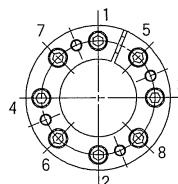

Fig. 3 Tightening sequence for bolts
- Set a torque wrench to approximately 1/4 of the torque MA (refer to the table given below for torque MA) and tighten each of the tightening bolts evenly in the sequence shown in figure 3.